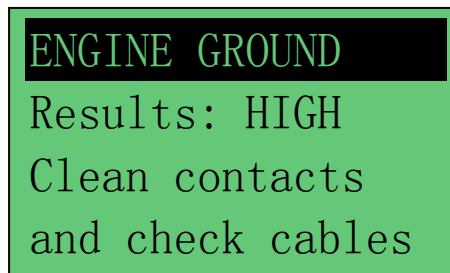

Figure 38
11. If the measured resistance reading has gone beyond the limits, then it will display the screen as follows (Fig. 38).